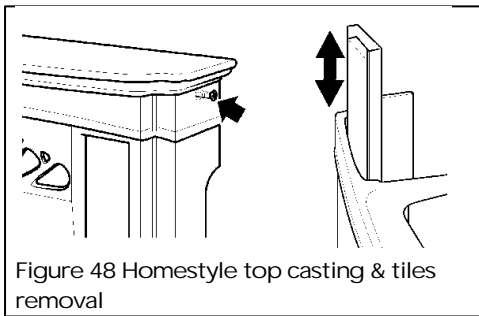

Figure 48 Homestyle top casting & tiles removal
13.5.1 Remove the top casting by unscrewing the two screws at the top of the side castings until they are loose enough to allow the top to be lifted off. There is no screw thread in the top casting only in the side castings. See figure 48.
13.5.2 Remove the complete tile cassette by sliding the cassette channel up and out of the front casting. See figure 48. Alternatively, remove the tiles individually by sliding them up out of the cassette channel. This second method will have to be employed if a shelf above the fire is too low to enable the channel to be slid clear